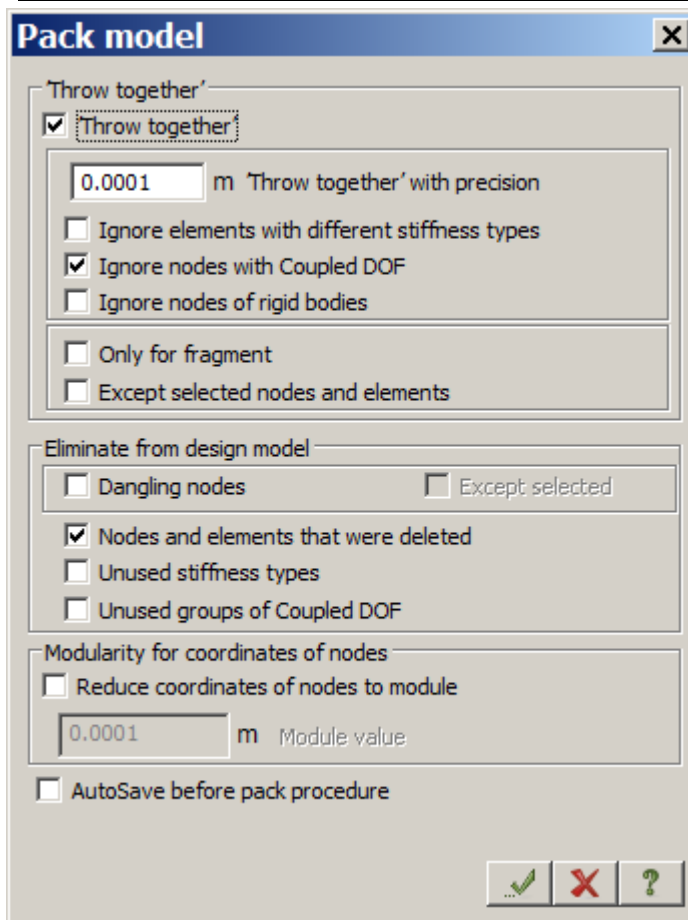

Figure 3.6 Pack model dialog box
- ⇒ In the **Pack model** dialog box (see Fig.3.6), click **Apply** . It is necessary to pack the model in order to 'throw together' coincident nodes and elements and to eliminate (that is, to remove completely) deleted nodes and elements from design model.